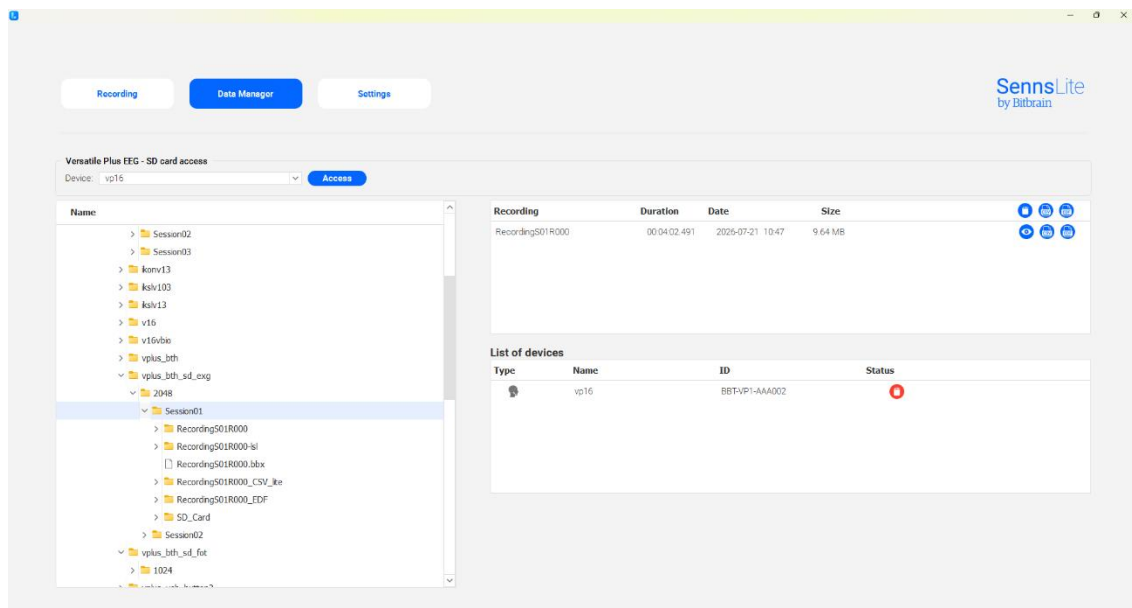

Figure 29. Session-Level SD Card Import: Importing All Recordings Contained in the Selected Session
- A **red SD card icon** indicates that data was recorded correctly from the device, but the SD card content has not yet been imported. Figure 29 illustrates this state, specifically for the EEG signal recorded in that session.
To perform a session-level import (Figure 29), select the corresponding session folder and click the blue SD Card Import button available in the upper-right panel. All recordings contained within the selected session will be imported.